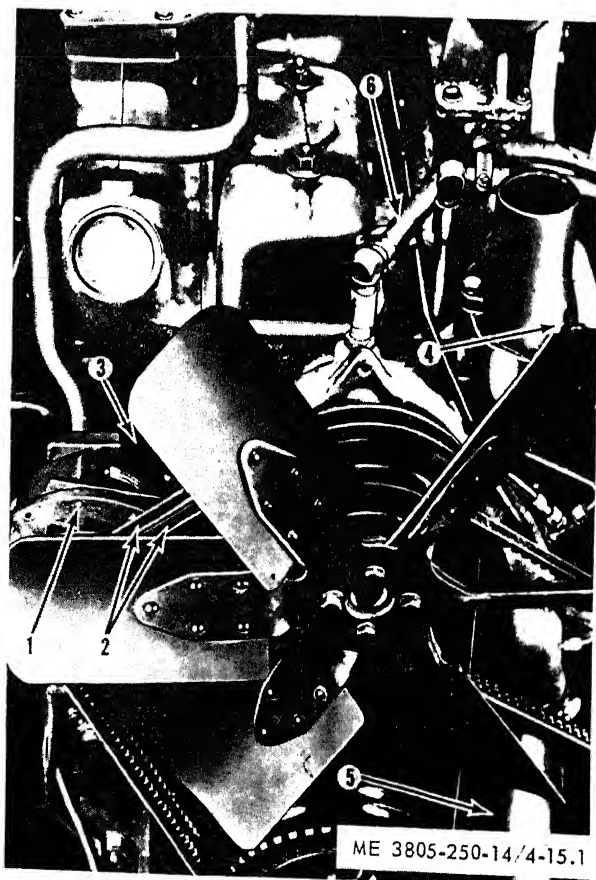

Figure 4-15.1. Water pump, removal and installation.
Figure 4-15.1 is added as follows:
(2) Loosen the alternator adjusting strap bolt (1, fig. 4-15.1) and remove the fan belt (2).
(3) Remove four bolts and lockwashers securing the fan to the pulley, and remove the fan.
(4) Disconnect the oil cooler line (3) and discard the gasket.
(5) Disconnect the clamp securing the bypass hose (4) to the water pump housing.
(6) Disconnect the clamp securing the lower radiator hose (5) to the housing.
(7) Disconnect the air compressor line (6).
(8) Remove four bolts and lockwashers, and one washer and spacer securing the pump housing to the block. Remove the pump and discard the mounting gasket.